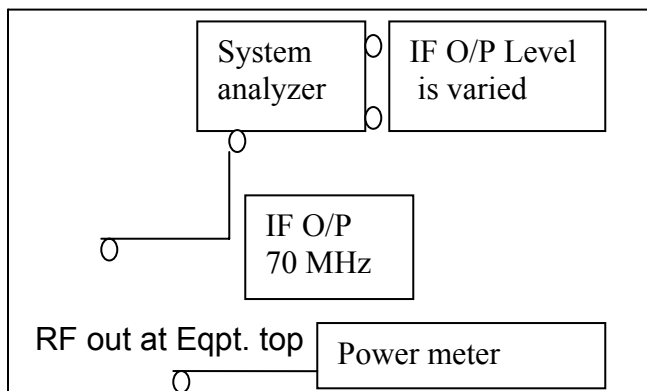

Fig. 7-14
- Make the test set up as below Fig. 7-14